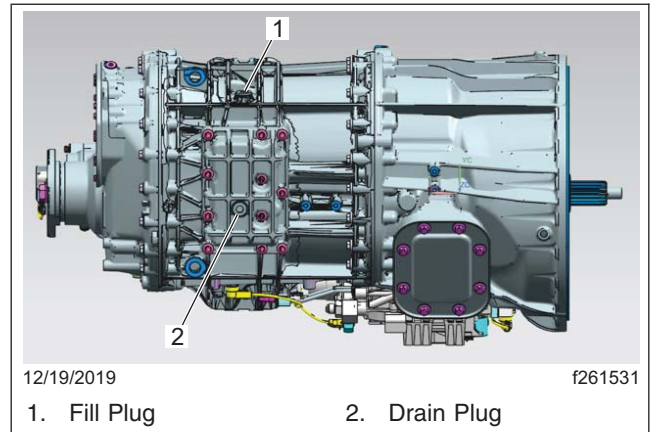

Fig. 1, Drain and Fill Plugs, Detroit Automated Transmissions
2. Clean the area around the fill plug, then remove it from the side of the gear case. Remove the drain plug from the bottom of the case. See Fig. 1.
1. Clean the area around the fill plug, then remove it from the side of the gear case. See Fig. 1.